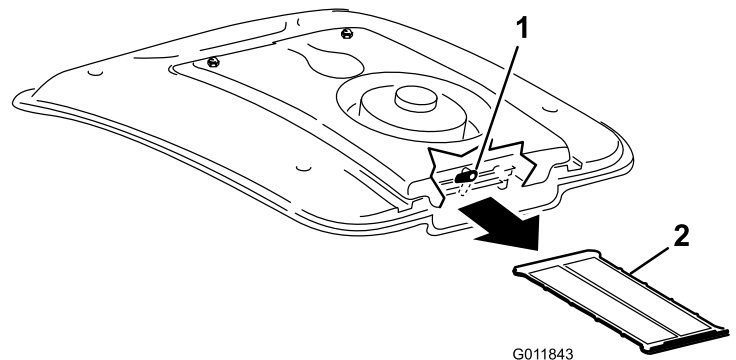

Figure 104
3. Slide the A/C screen out from under the air conditioning coil (Figure 104).
4. Clean the screen thoroughly with compressed air (Figure 104).
2. On the rear of the fan mount, rotate the latch to the side (Figure 104).